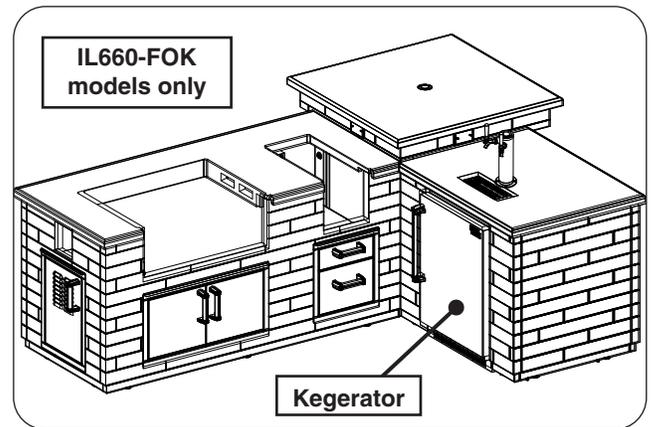

Fig. 18-2 Install kegerator (if applicable)
**Note:** The countertop has cutouts for the kegerator below. In addition to all information found in the owner's manual, slide the kegerator and plug it into the island electrical outlet (see Fig. 18-2).